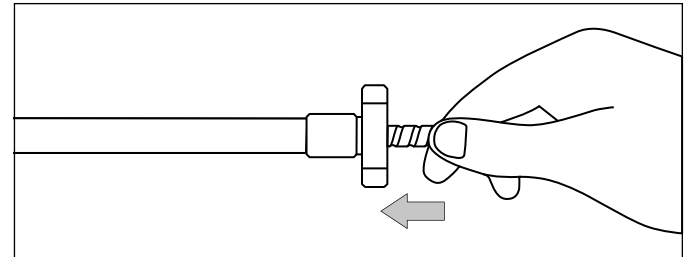

Fig. 20: Hold the flexible sensor rod close to the flange when inserting it
2. When inserting the flexible sensor rod, hold it close to the flange and insert it slowly into the support tube (Fig. 20). This allows air in the support tube to escape.
1. When inserting the flexible sensor rod, hold it close to the flange and insert it slowly into the support tube (Fig. 20). This allows air in the support tube to escape.
- When inserting the flexible sensor rod, hold it close to the flange and insert it slowly into the support tube (Fig. 20). This allows air in the support tube to escape.